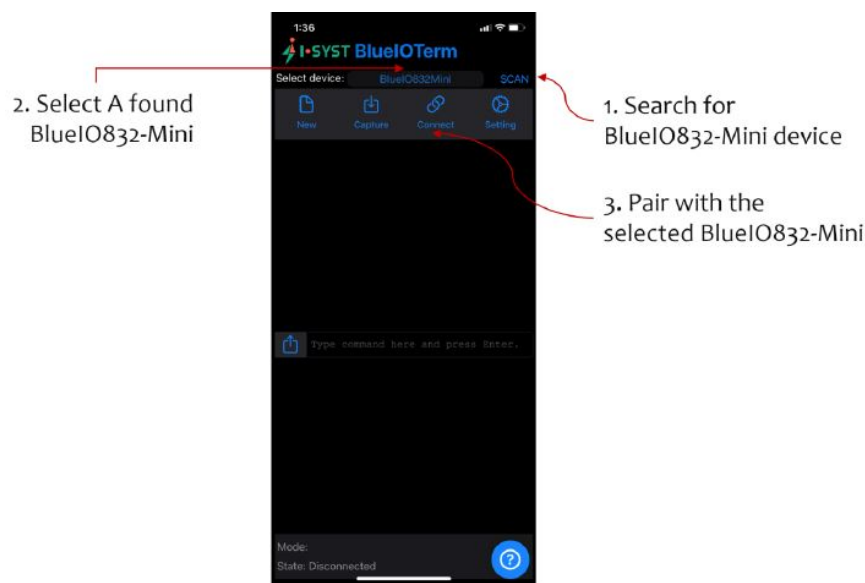
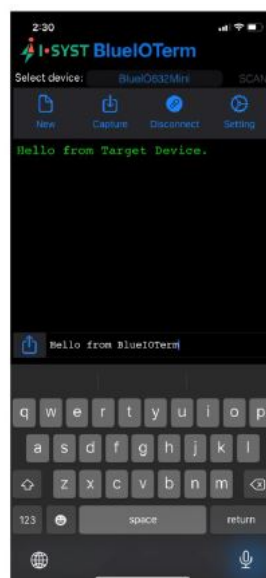

Fig. 8. Search and pair a BlueIO832-Mini with BlueIOTerm.
Fig. 10. Send and receive message in BlueIOTerm.
4. Tap "Connect" to pair BlueIO832-Mini with the app. The display terminal on the app shows the current UART parameters used by BlueIO832-Mini (Figs. 8 and 9). Now, BlueIOTerm is ready for the user to send messages to and/or receiving messages from the UART interface connect with BlueIO832-Mini (Fig. 10).